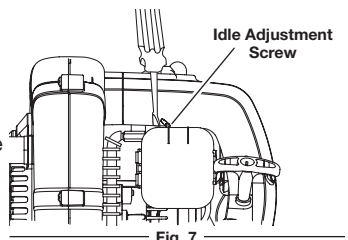

Fig. 7
The idle speed of the engine is adjustable. An idle adjustment screw is between the air filter cover and the engine cover (Fig. 7).
- Move the cruise control to the SLOW position and let the engine idle. If the engine stops, insert a small Phillips screwdriver in between the air filter cover and the engine cover (Fig. 7). Turn the idle speed screw in, clockwise, 1/8 of a turn at a time (as needed) until the engine idles smoothly.